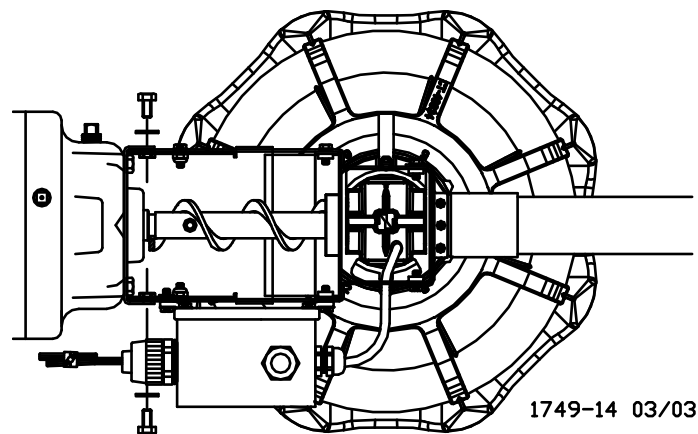

Figure 67. Attaching the Anchor Plate and Gearhead Assembly to the Control Unit Body
7. Attach the Anchor Plate and Gearhead Assembly to the Control Unit Body using the included 1/4" Lock Washers and 1/4-20 x 1/2" Bolts. See **Figure 67**.